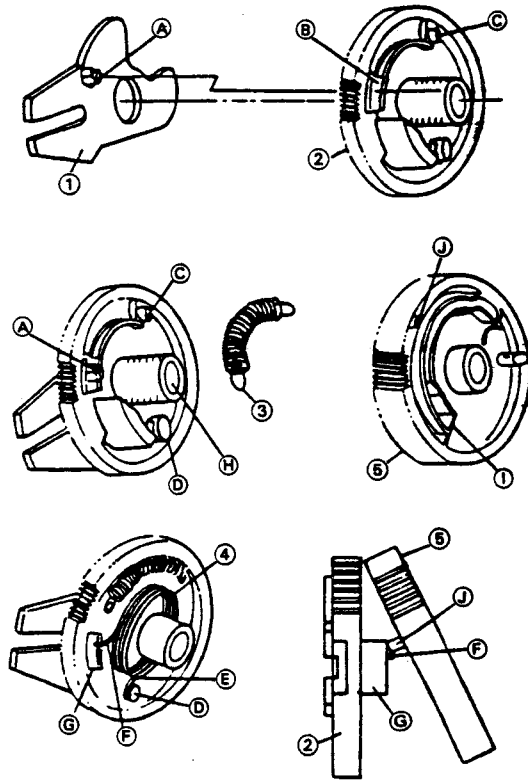

Figure 1-3.
- **Set up of worm wheel assembly (Fig. 1-3)**
1. Put the tab (A) of the drive (1) into the hole (B) of the drive gear (2).
2. Hook both ends of the drive spring (3) onto the tab (A) of the drive arm and tab (C) of the drive gear respectively.
3. hook one end (E) of the drive reciprocating spring (4) onto the tab (D) of the drive gear assembly and mount another end (F) of the drive reciprocating spring onto the tab (G) of the drive gear: this time, hold the end (F) of the drive reciprocating spring by hand.
4. Fit the tab worm wheel gear (5) onto the tag (G) of the drive gear.
5. Using a tapered screwdriver, hook the end (F) of the drive reciprocating spring onto the tab (J) of the worm wheel gear: check that both ends of the drive reciprocating spring have been engaged with the respective tabs of the drive gear assembly.
6. holding the drive gear by hand, turn the worm wheel gear by the other hand counterclockwise. Then tab (C) of the drive gear will be engaged with the hole (I) of the worm wheel gear (5). (The worm wheel gear doesn't tend to rotate reversely but it is likely to slip out of the shaft (H) of the driver gear. To avoid this, hold both the drive gear and worm wheel gear by hand.)